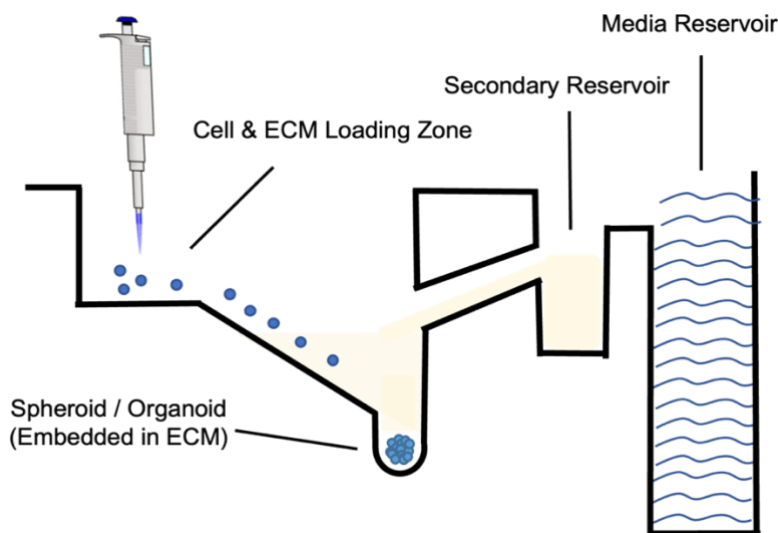

Fig. 2. Schematic cross-section of the 3-in-1 plate with location of Cell/ECM Loading Zone
- 1-2- After 2 minutes, add 50 μL of cell suspension¹ to the Cell/ECM Loading Zone of each compartment of the insert and incubate for 10 minutes under cell culture conditions to let the cells sediment into the microwells². Make sure to deposit the cell suspension close to the gel and drop-by-drop to avoid bubbles getting trapped. This process is illustrated in Fig. 2.